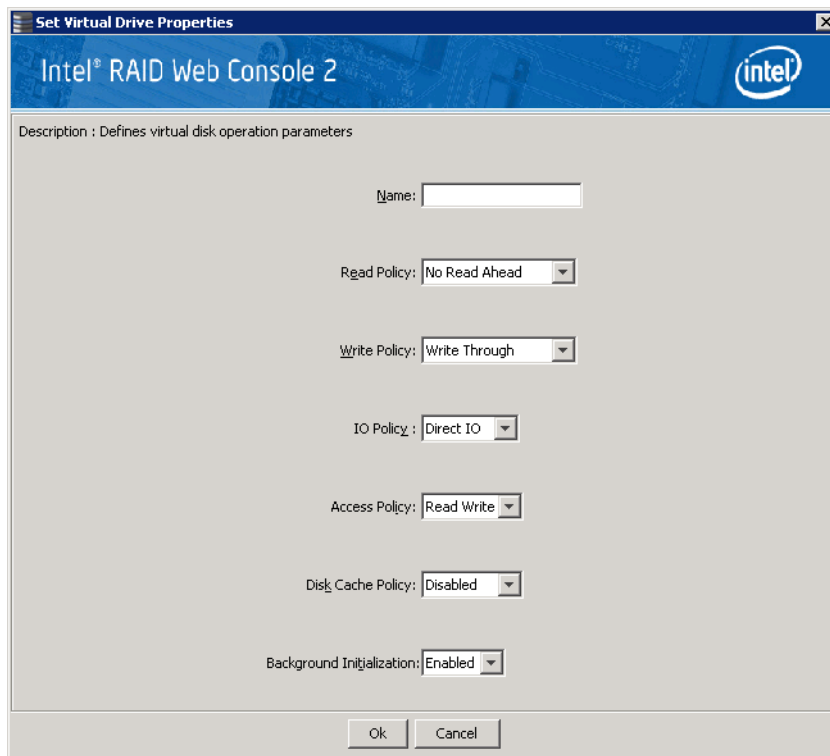

Figure 74. Set Virtual Disk Properties
1. Select a virtual disk (or drive) icon in the left panel and then select **Go To -> Virtual Drive -> Set Virtual Drive Properties**. Alternatively, click the **Properties** panel and then click **Set Virtual Disk Properties**. Figure 74 shows the Set Virtual Disk Properties screen.